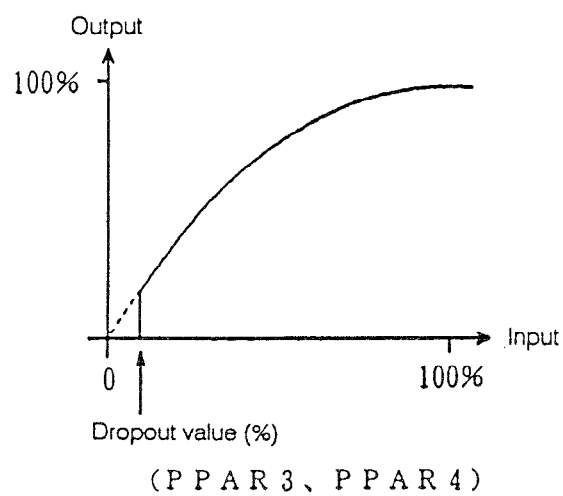

Fig. 11.6. Square Root Extraction Processing
- (3) PPAR3: Dropout value for square root extraction on analog input (AI1). Setting a value in % of input value as shown in Fig. 11.6.
- (4) PPAR4: Dropout value for square root extraction on analog input (AI2). Setting a value in % of input value as shown in Fig. 11.6.
- (5) PPAR5: Sets an alarm hysteresis width of DEV alarm, or PV alarm (upper, lower) on [PID1].
- (6) PPAR6: Sets an alarm hysteresis width of DEV alarm, or PV alarm (upper, lower) on [PID2].